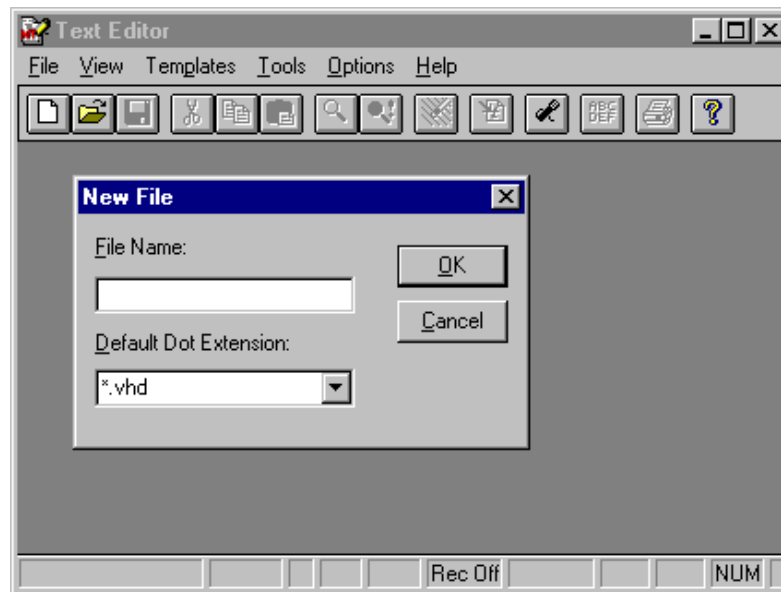

Figure 1-13. New VHDL Test Bench File Dialog Box
3. Select the source with which you want to associate the `.vhd` file, click **OK**. The Text Editor appears with the New File dialog box (Figure 1-13).